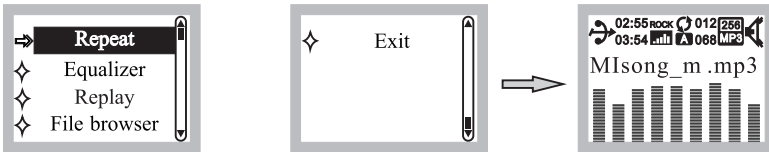

Fig. 11
- (D) Panel Operating Instructions: During track playing, press & hold PLAY/PAUSE  button to enter music parameter selection for changes. Press PLAY/PAUSE button and then press PRV/TEN  or NEXT/ TEN  to locate the desired parameter. Press PLAY/PAUSE to confirm change and save, Fig. 11.
- (E) Remote Operating Instructions: During track playing, press Mode button to enter music parameter selection for change. Press  or  to highlight selection. Press  to confirm.